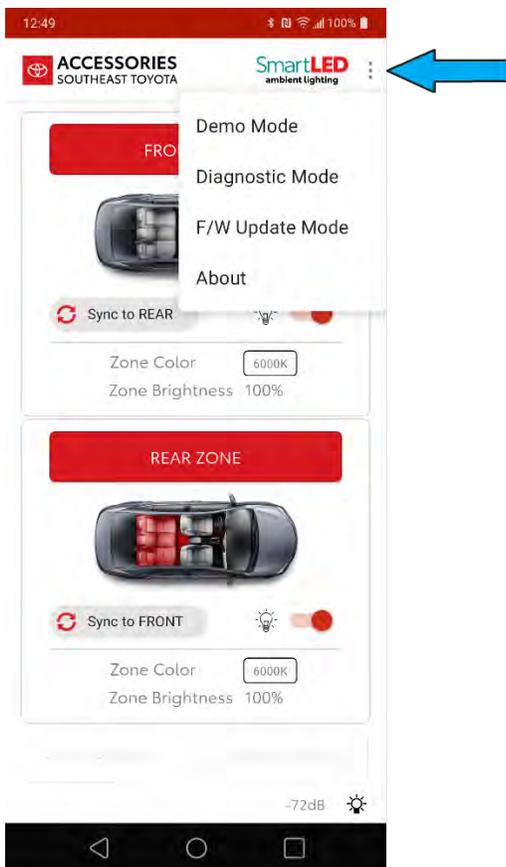

Figure 4
- a. Verify the proper operation of each zone and channel as the app goes through the diagnostic mode, as shown in Figure 4.